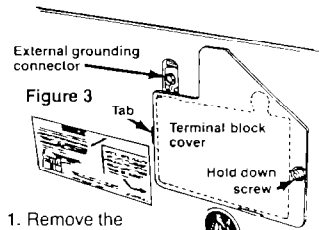

Figure 3
1. Remove the terminal block cover by removing the screw shown in Figure 3.
4. Replace the terminal block cover by first installing the tab of the cover into the slot of the dryer rear panel (see Figure 3). Secure the cover with the mounting screw.
5. Connect a separate copper grounding wire (No. 10 minimum) to a grounded cold water pipe* by means of a clamp and then to the frame of the appliance at the external grounding connector. Use Part No. 685463 grounding wire and clamp assembly. **Do not ground to a gas supply pipe or hot water pipe. Do not connect the power supply cord to electric power supply until appliance is permanently grounded.** See Figure 3.
1. Remove the terminal block cover by removing the screw shown in Figure 3
6. Replace the terminal block cover by first installing the tab of the cover into the slot of the dryer rear panel. See Figure 3. Secure the cover with the mounting screw.